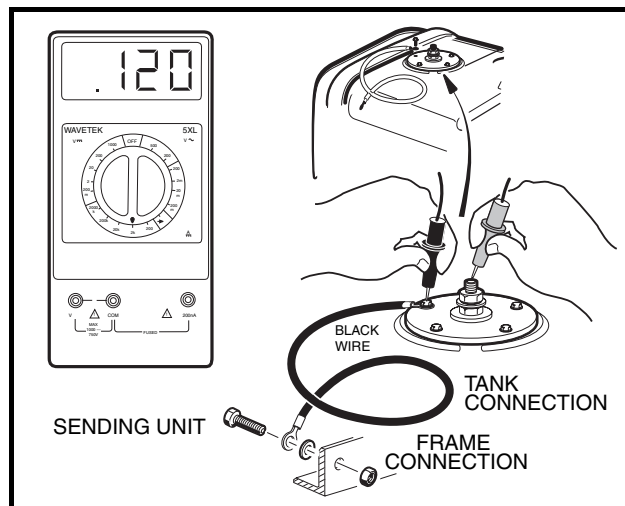

Figure 11-29 Fuel Level Sending Unit Test
3. With a multimeter set to 2 k (ohms), place the red (+) probe of the multimeter on the center post of the sending unit. Place the black (–) probe on the ground connection of the sending unit (**Figure 11-29, Page 11-30**).